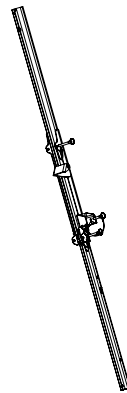

Fig. 5
3. Check the bracket is correctly installed (Fig. 5).